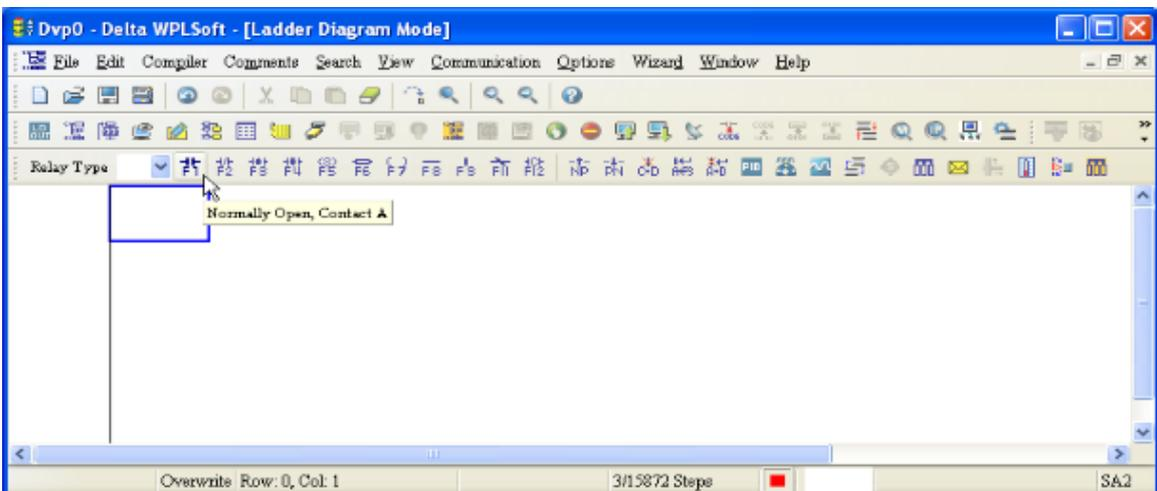
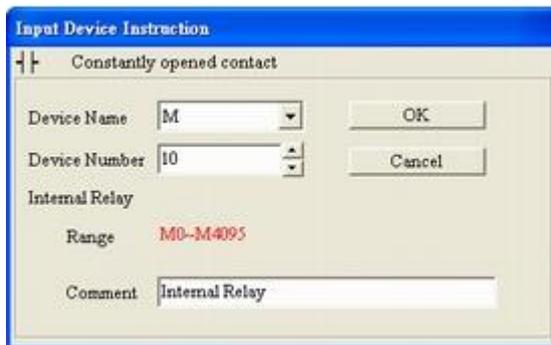

Figure 16-19
Figure 16-20
Step 2. Add an always-open switch. On the toolbar click the always-open switch button  or press F1. In the **Input Device Instruction** dialog box, select the device name (such as **M**), device number (such as **10**) and enter comments (such as **auxiliary contact**). Click **OK** when finished. (See Figure 16-19 and Figure 16-20.)